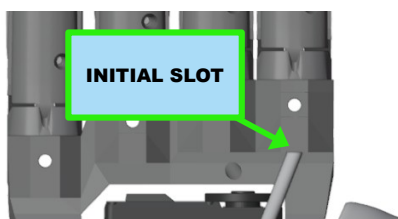

Figure 5.24: Inserting the tube into the initial slot (rear view)
1. Insert one end of the PTFE tube into the initial slot (on the rear of the skeleton) of the extension tendon (figure 5.24)